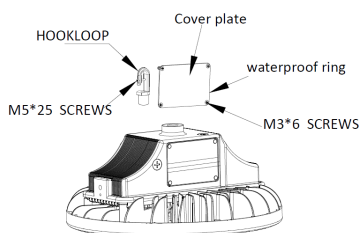

FIG. 1
1. Find the accessories shown in Fig. 1